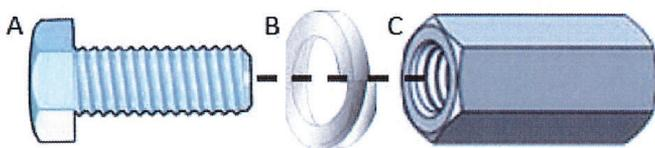

Figure 3
The Hurley Picket Anchor System comes with one striking cap (Figure 3). The striking cap consists of a bolt (A), lock washer (B), and coupling nut (C).